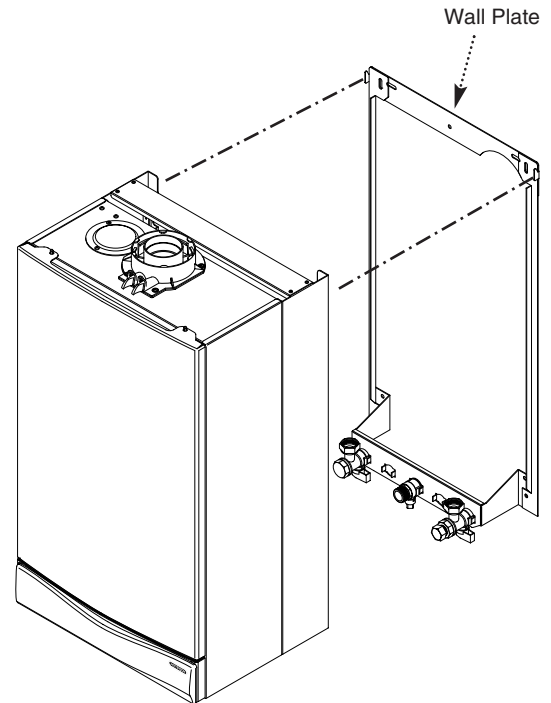

Fig. 14
2. Lift the boiler using the lower edges. Engage the slots at the top rear of the boiler on the wall plate (Fig. 14).